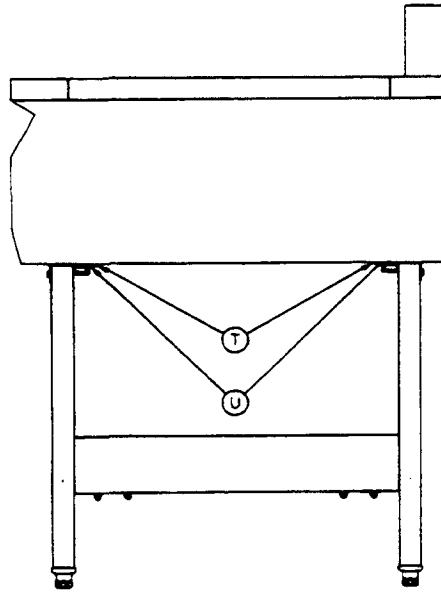

Figure 9
1. Mount angle support brackets item "T" to unit using #10 x *Y*i sheet metal screws item "IT" provided as shown in Figure 9. Mounting holes are prepunched for angle mounting.